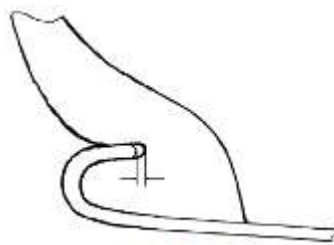

Figure 9, Ideal fit
**THE BEADED EDGE WHEEL RIM:** this is of critical importance. In the early days of beaded edge car tyres, there were no standards laid down and until comprehensive dimensions and tolerances were established by Society of Motor Manufacturers and Traders (S.M.M.T.), rims could be haphazard. The 'ideal' fit of tyre to rim is shown in figure 9.
Figure 9, shows the 'heel' of the bead to be a 'snug' fit in the rim turn over with a clearance of 0.5 – 1.0 mm, between the inner edge of the turned over rim and the undercut in the tyre clinch. Interference caused by poorly repaired rims, between the wheel rim inner edge and tyre clinch undercut prior to the heel of the bead seating into the radius of the wheel rim turnover